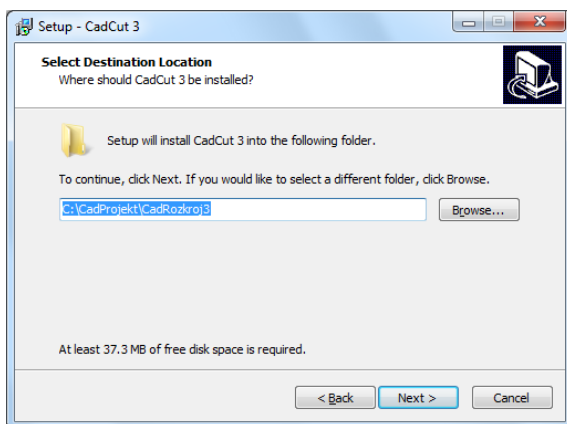

Fig. 10 – default installation path
- After clicking '**Next >**' you can indicate a location on a disk, in which CAD Cut program files are to be installed (Fig. 10) - the default location is **C:\CadProjekt\CadRozkroj**.